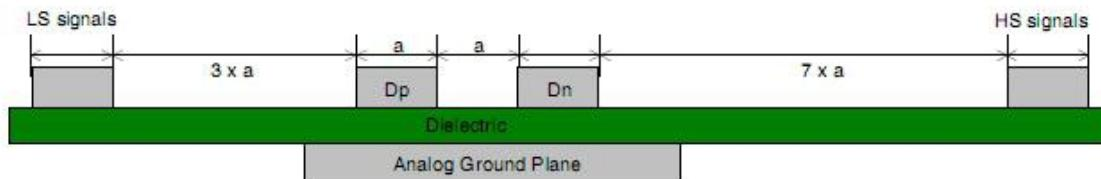

Figure 4-23 USB Layout
- The USB traces at least need to be maintained a clearance of $3W$ with other signals. Shown as Figure 4-23.